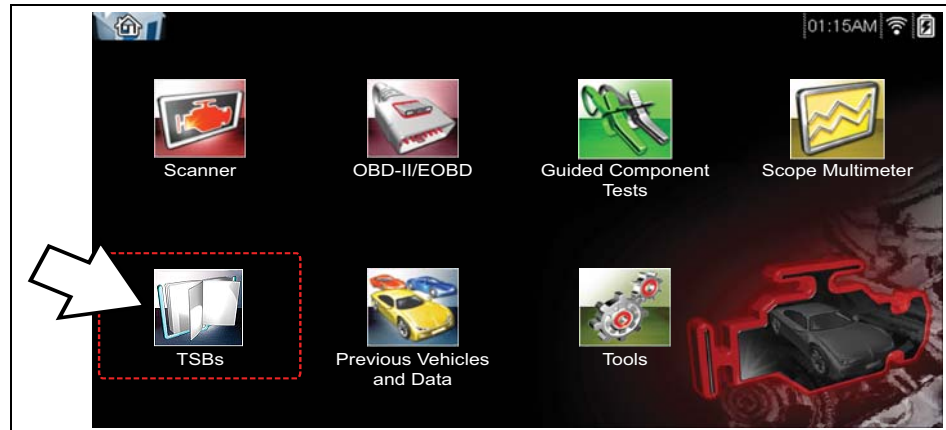

Figure 7-1 Home Screen - TSBs icon
1. Select the **TSBs** icon from the Home Screen (Figure 7-1).